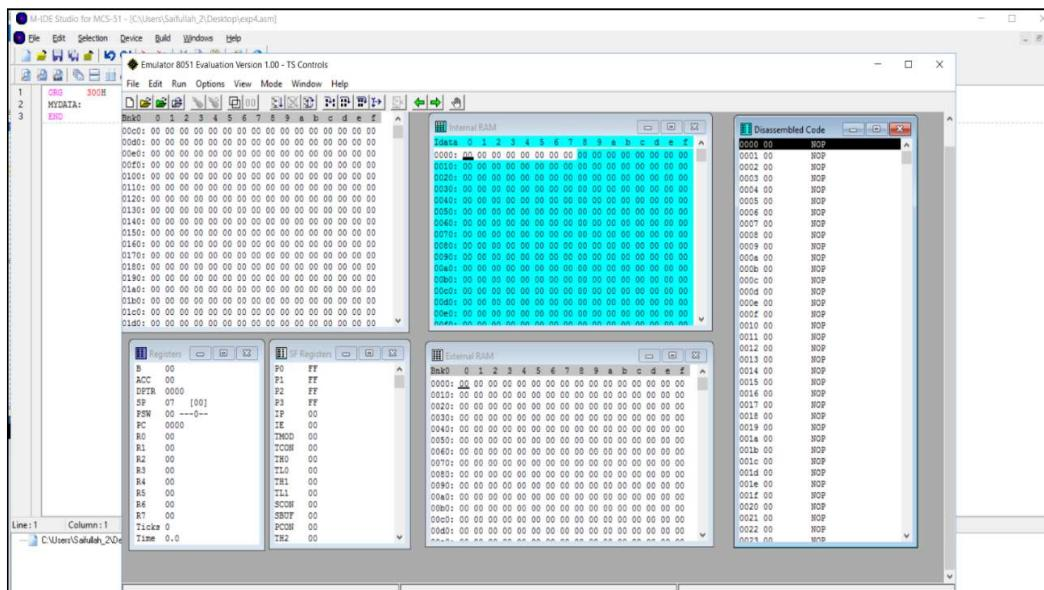

Figure 3.13: Windows Showing the Contents of Different Resources of the 8051
- h. An example of the functions of windows is shown in Figure 3.13. Identify different windows in the simulator. E.g., Windows for: